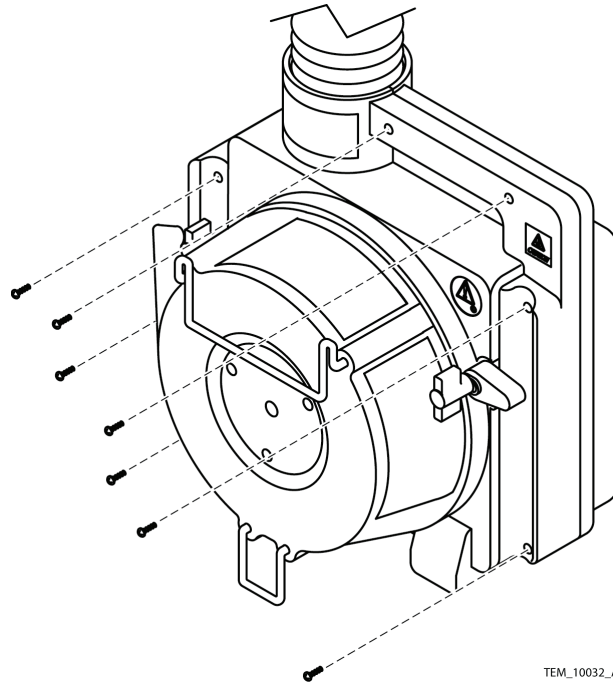

Figure 19. Cover Screw Locations
7. Remove the screws holding the front and rear covers together. See Figure 19.